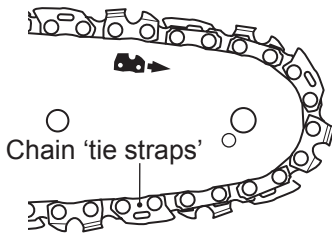

Fig. 11
- Place the product on a suitable flat surface with the chain saw cover (22) facing forwards.
- Check the chain tension using one hand to lift the saw chain (20) against the weight of the product. The correct chain tension is achieved when the saw chain can be lifted by approximately 2 - 4 mm from the guide bar (19) in the centre (Fig.11, 12).